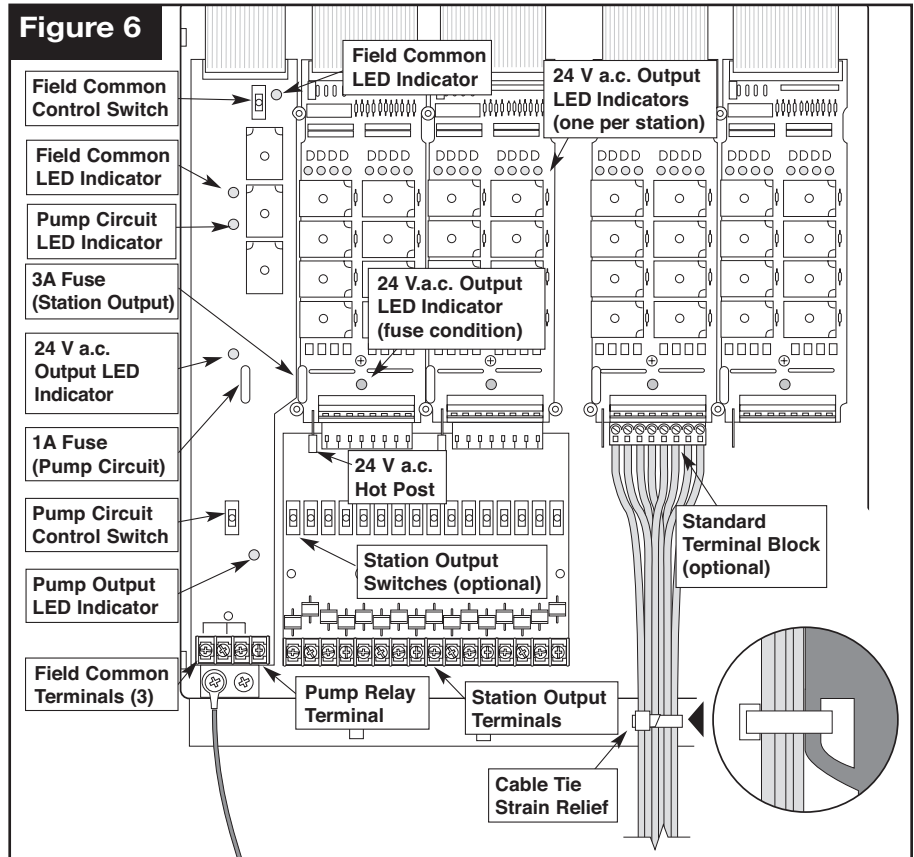

Figure 6
- Note:** The satellite incorporates a 24 V a.c. Hot Post feature on each station output module which enables control valves to be identified through momentary activation. To utilize the Hot Post feature, the satellite power supply must be switched on. If you do not wish to use the Hot Post feature, leave the controller's main power switch Off until the installation has been completed. See **Figure 6**.
3. Secure the field common wire(s) and pump start relay (or master valve) wire to the appropriate terminals on the Pump/Com module. See Figure 6.
5. Secure the valve control wires to the station terminals in the preferred order of operating sequence. Station terminals are numbered left to right, 1–32 (front) and 33–64 (back). Each terminal can accommodate two 14 gage (1.5mm²) solid copper wires. See Figure 6.
Note: A loop is provided on the plastic chassis below each output module enabling a wiring strain relief to be installed when the optional standard terminal block connector is used. After connecting the field wires, install a nylon cable tie through the loop and around the wire bundle. Ensure the terminal block is properly mated with the output module connector after tightening the cable tie. See Figure 6.